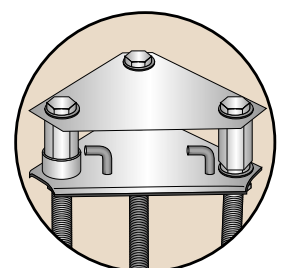

Fig 4,
3. To ensure that the foundation bolts remain parallel to one another during the concreting, lock the top template plate into position using the 3 set screws and anti vibration washers as shown. (See Fig 4)
9. Assemble the weight ensuring that it is locked into position as per the instructions, pass it over the rotating joint with the clip towards the top. (See Fig 4)